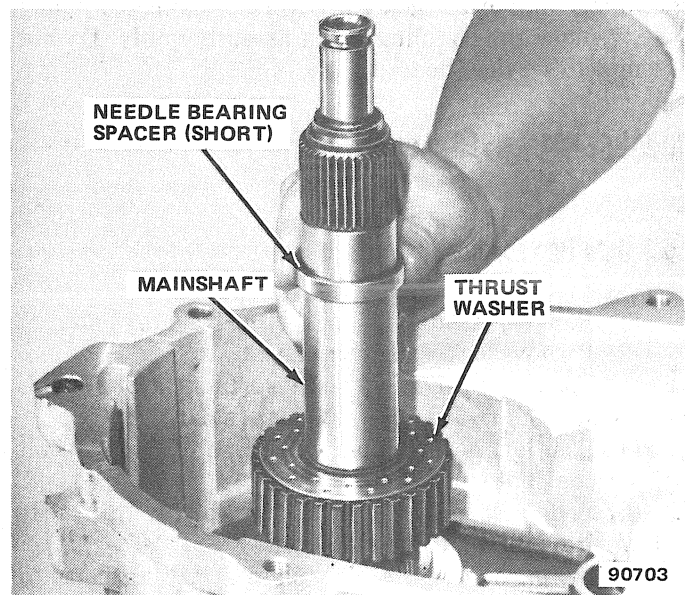

Fig. 2D-64 Mainshaft and Thrust Washer Installation
(18) Apply liberal coating of petroleum jelly to mainshaft needle bearing surface and to all 82 needle bearings. Install 41 bearings on shaft. Be sure bearings are in vertical position and seat on short spacer. Use additional petroleum jelly to hold bearings in place if necessary (fig. 2D-65).